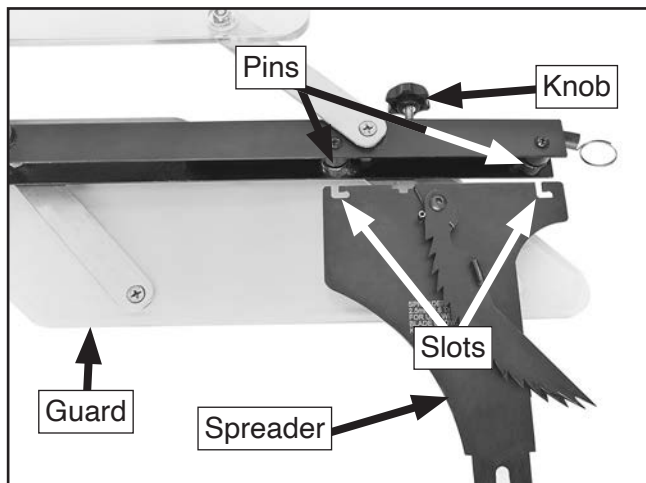

Figure 44. Assembling blade guard and spreader.
3. Loosen top knob on blade guard, slide pins on guard into spreader slots, move guard back, then tighten top knob (see **Figure 44**).